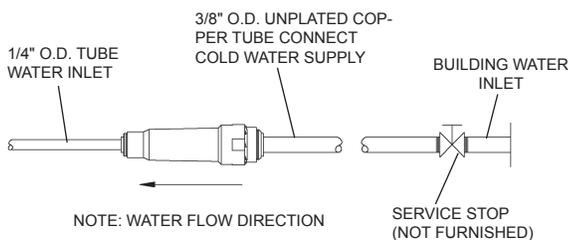

FIG. 10
5. Connect drain and water supply lines to the freeze resistant fountain. Refer to Figure 1 for component positions. Inline strainer must be used on the inlet water line. See Figure 10.